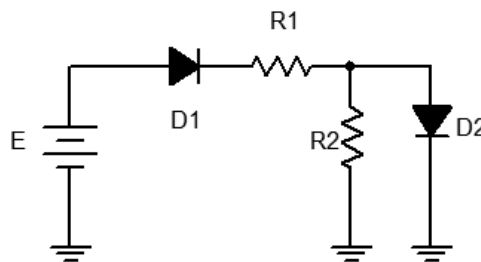

Figure 3
7. Consider the circuit of Figure 3 using $E = 12$ volts, $R_1 = 10 \text{ k}\Omega$ and $R_2 = 4.7 \text{ k}\Omega$. Analyze the circuit using the ideal 0.7 volt forward drop approximation and determine the voltages across the two resistors. Record the results in the first two columns of the first row (Variation 1) of Table 3.
8. Build the circuit of Figure 3 using $E = 12$ volts, $R_1 = 10 \text{ k}\Omega$ and $R_2 = 4.7 \text{ k}\Omega$. Measure the voltages across the two resistors. Record the results in columns three and four of the first row (Variation 1) of Table 3. Also compute and record the percent deviations in columns four and five.